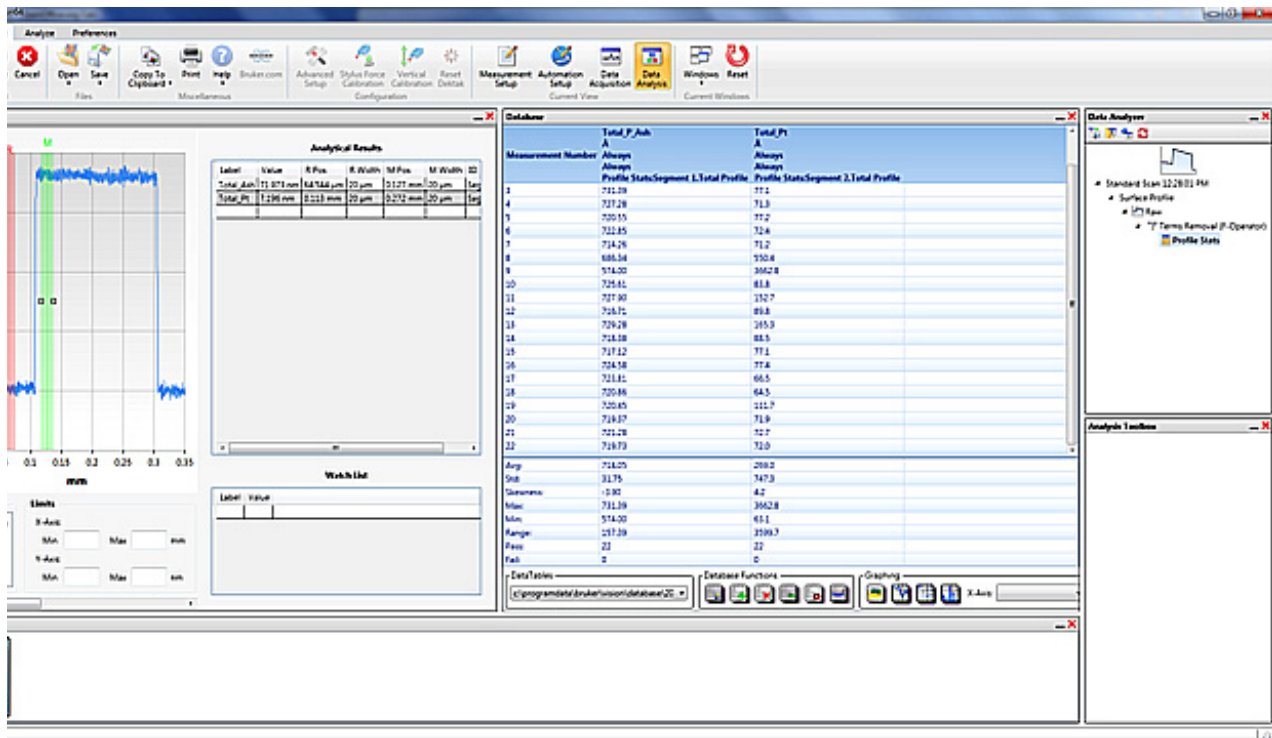

Figure 4-25: Data Analysis Display with an Open Database Window
- Click the **General Preferences** button  on the **Preferences**, set **Enable Data Logging** to **True**, and then click **OK**. A database file is now generated for each scan measurement (see Figure 4-25).